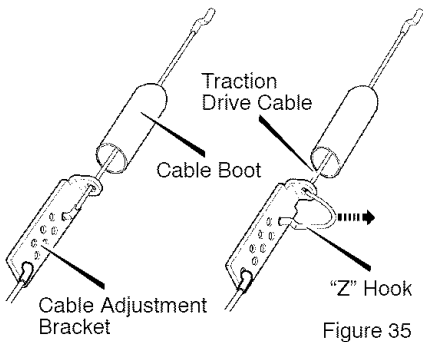

Figure 35
6. Slide the **cable boot** off the **cable adjustment bracket** (see Figure 35).